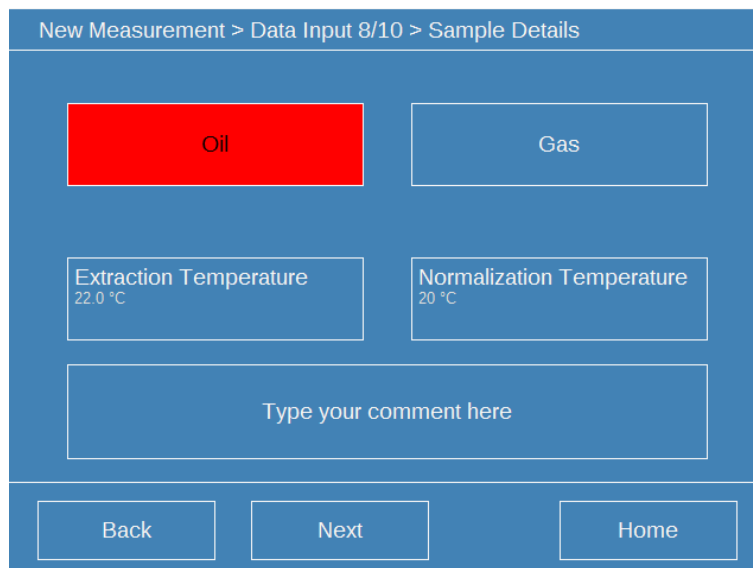
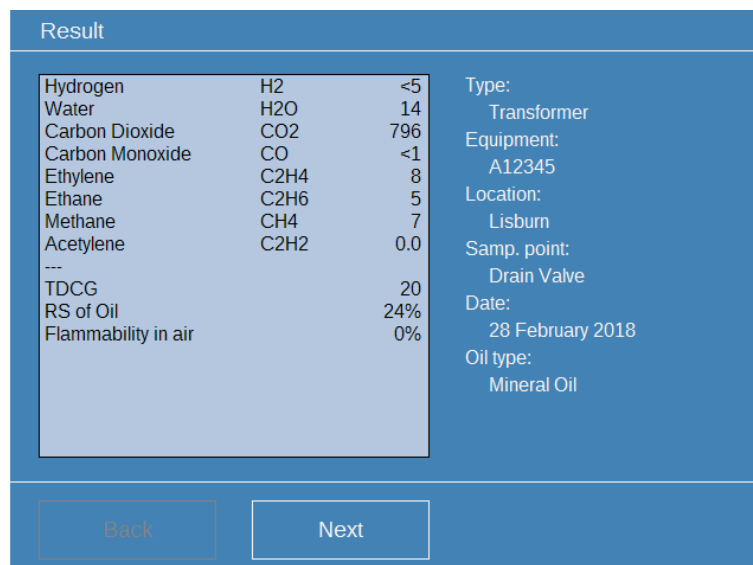

Figure 7-15: New Measurement > Data Input (step 8/10) > Sample Details
Figure 7-35: New Measurement > Results
The Sample Details screen displays as shown in Figure 7-15. The operator is required to provide details of the source of the sample.
When the measurements of the oil sample are complete, the results display as shown in Figure 7-35. The Results screen shows the concentration levels of the various dissolved gases and the Total Dissolved Combustible Gas (TDCG) level in the sample oil. The Relative Saturation (RS) percentage is also displayed if the Sample Oil Extraction Temperature (see Figure 7-15) was previously selected as part of the measurement record as outlined in Section 7.3.1.